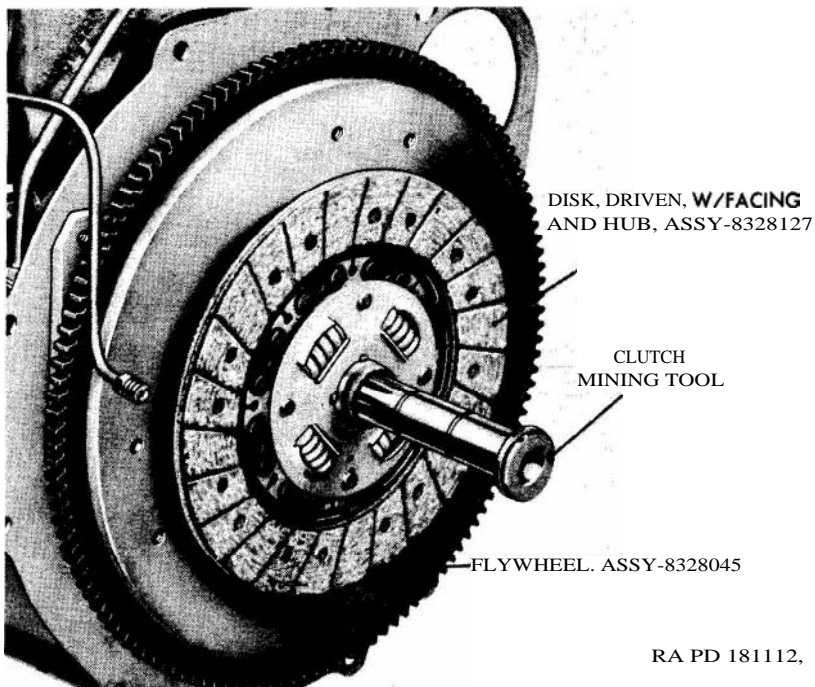

Figure 101. Installing clutch driven disk w/facings and hub assembly.
a. Obtain an input shaft from a scrapped transmission and cut off the integral gear from the end of the shaft. Using the shaft as an improvised *clutch* alining tool (*fig. 101*), position the driven disk with/facings and hub assembly against the engine flywheel with the hub extension of the disk facing away from the flywheel.